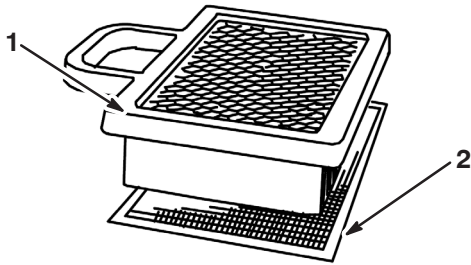

Figure 21
- Wash the foam element in liquid soap and warm water. When the element is clean, rinse it thoroughly (Fig. 21).
- Lightly tap the element on a flat surface to remove dust and dirt (Fig. 21).
- Place the foam element and paper element into the blower housing (Fig. 21).